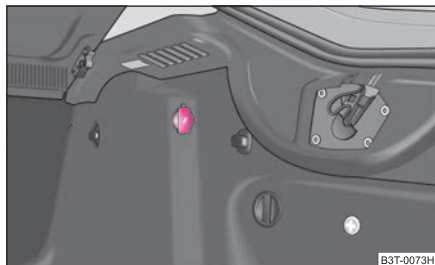

Fig. 90 Luggage compartment: Power socket
- Open the cover of the power socket ⇒ fig. 90.